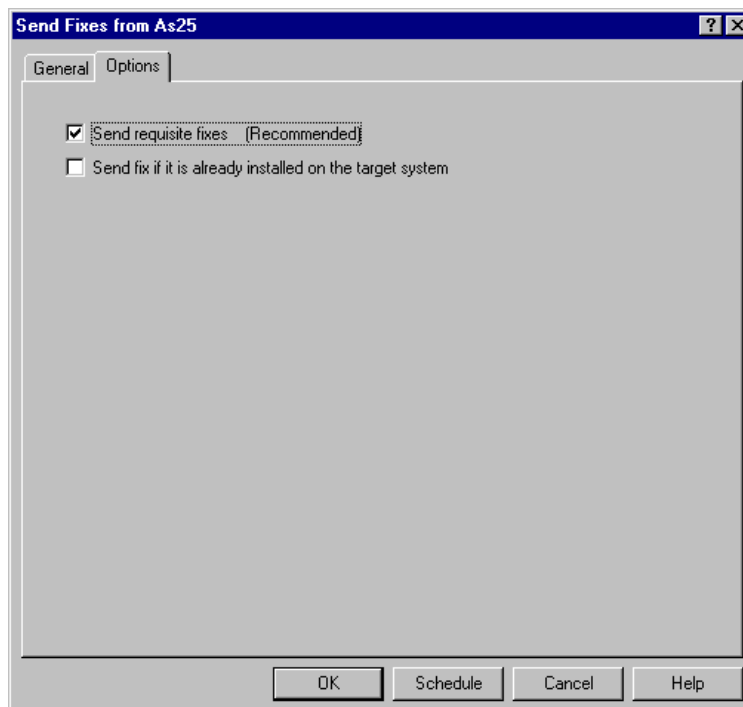

Figure 85. Send Fixes: Options window
9. Select the system or systems to which you will send the fix and click **Add** after each one. Then click on the **Options** tab to display the Send Fixes – Options window which is shown in Figure 85.